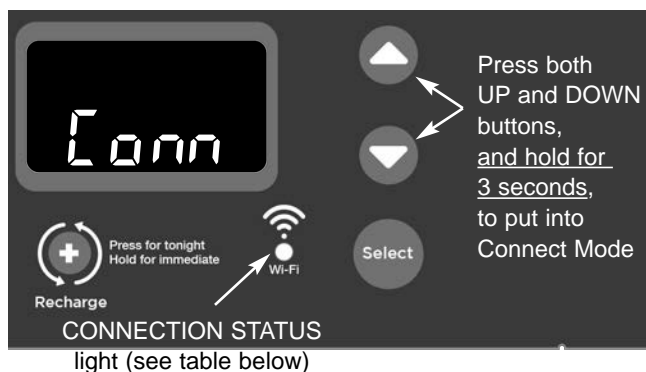

FIG. 30
3. On the water softener's front panel (See Fig. 30), press both the \triangle UP and ∇ DOWN buttons, and hold them for 3 seconds.
4. Release the buttons when “Conn” appears in the display (See Fig. 30) and the connection status light turns solid amber.
2. After signing into your account, verify that the softener is still in Connect Mode (See Fig. 30). In the app, tap **Connect** to add the softener, then **Setup Device** to begin pairing via Bluetooth.